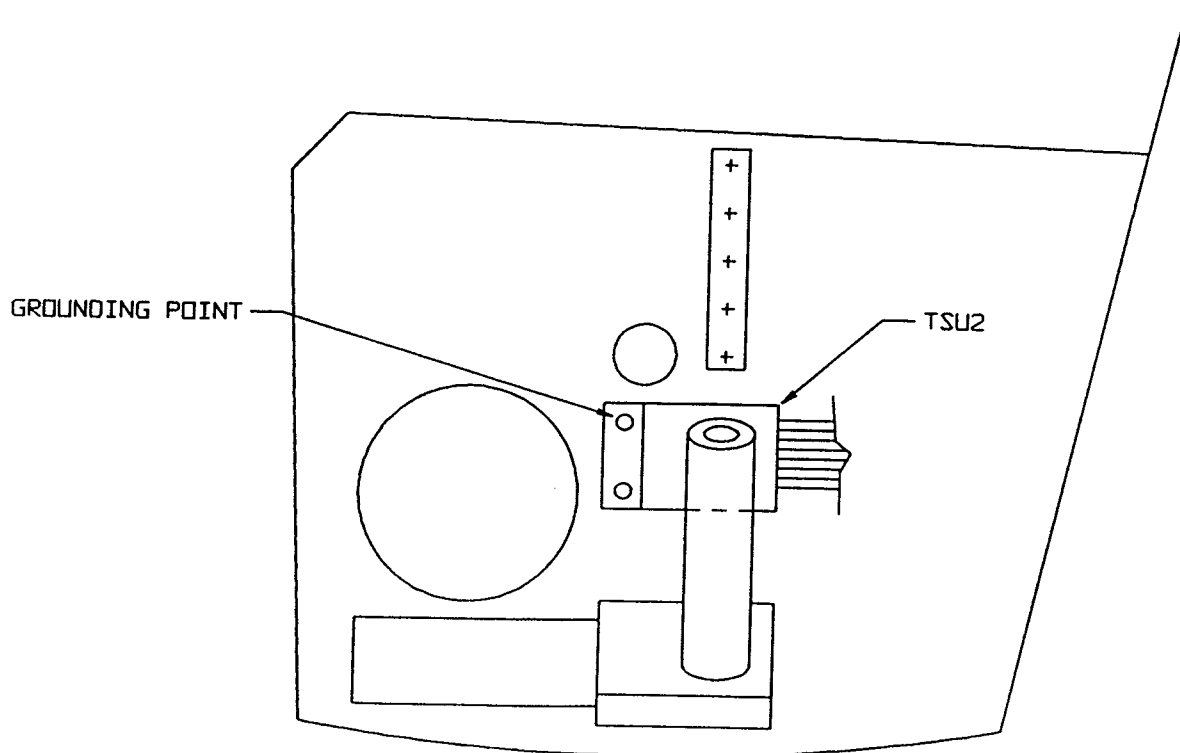

Figure 3
- 5.2.16) Mount TSU2 to the longitudinal beam seat structure on the pilot's side below the pilot's seat with the unit facing fore and aft (NOTE: wires pointing aft) using the hole from old grounding point and upper hole on TSU. Drill lower hole with #29 drill (See Figure 3).